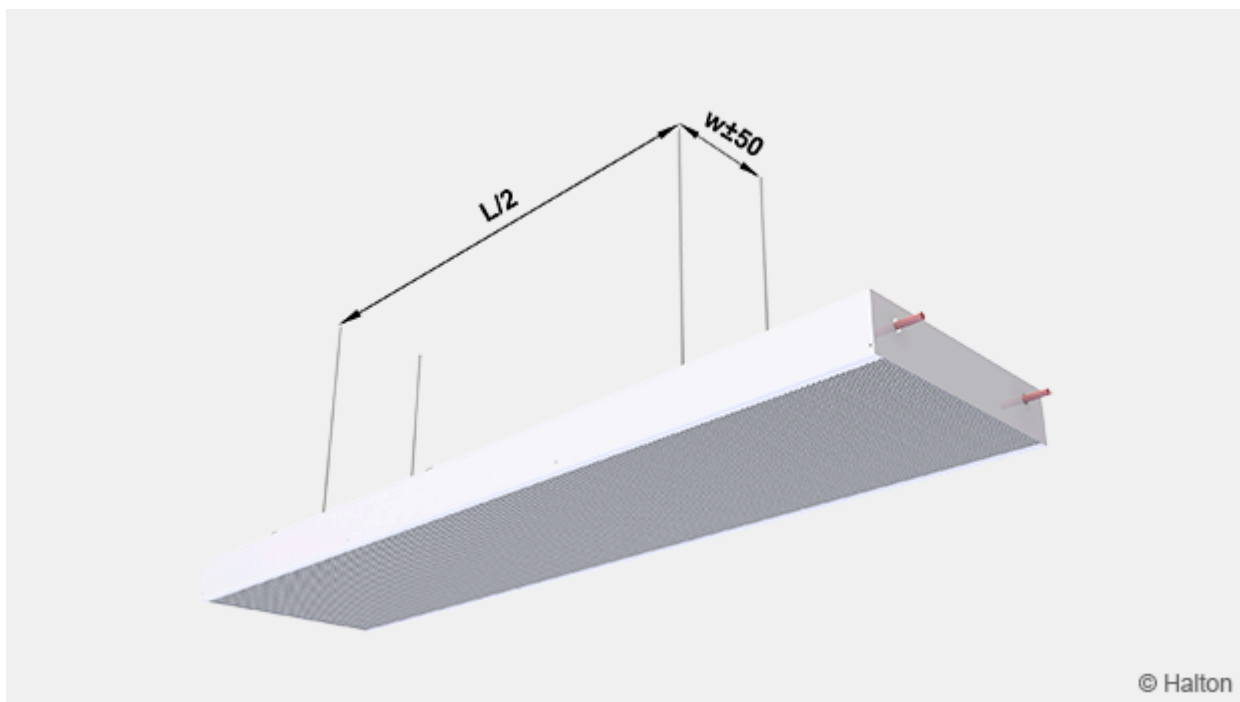

Fig. 13. Halton Rex REP, length less than 2400 mm
1. **Close to the wall** (see Fig. 13-A)
2. **Further from walls** (see Fig.13-B)